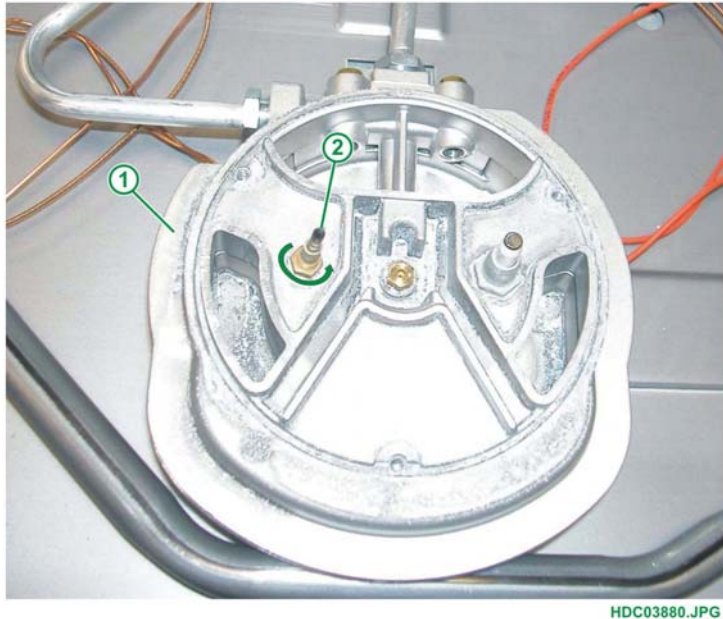

Fig. 41
1. Unscrew the thermocouple fixing nut (see Fig. 41).